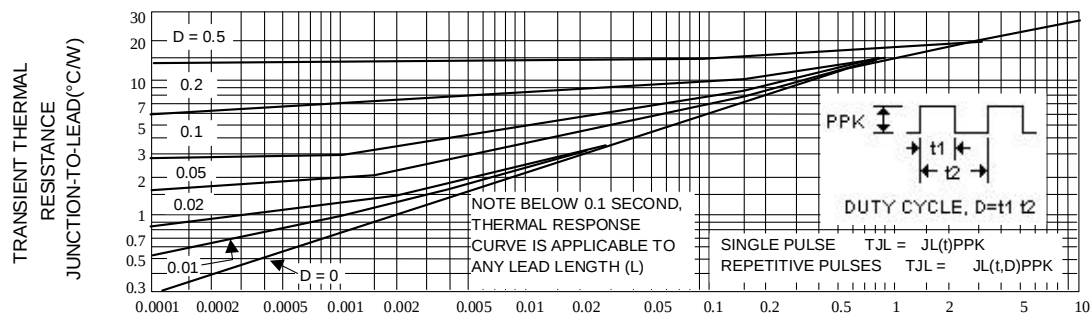
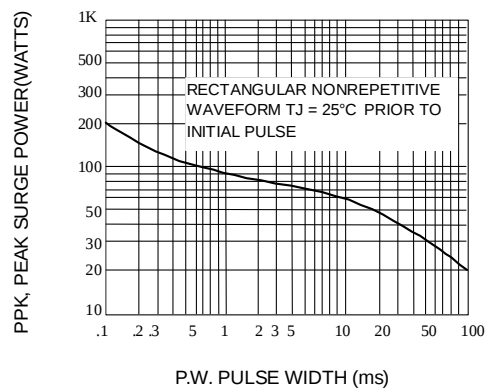

Fig. 2-TYPICAL THERMAL RESPONSE L,
Fig. 3-MAXIMUM SURGE POWER
4. SURGE CURRENT (I_R) NON-REPETITIVE - The rating listed in the electrical characteristics table is maximum peak, non-repetitive, reverse surge current of 1/2 square wave or equivalent sine wave pulse of 1/120 second duration superimposed on the test current, I_{ZT}, per JEDEC standards, however, actual device capability is as described in Figure 3.
ΔT_{JL} is the increase in junction temperature above the lead temperature and may be found from Figure 2 for a train of power pulses or from Figure 10 for dc power.
Data of Figure 2 should not be used to compute surge capability. Surge limitations are given in Figure 3. They are lower than would be expected by considering only junction temperature, as current crowding effects cause temperatures to be extremely high in small spots resulting in device degradation should the limits of Figure 3 be exceeded.